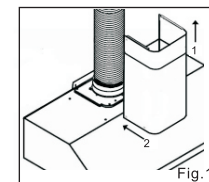

Fig.19
- Slide the inner duct cover up 2 inches before sliding the entire duct cover on the hood. (Fig.19 )